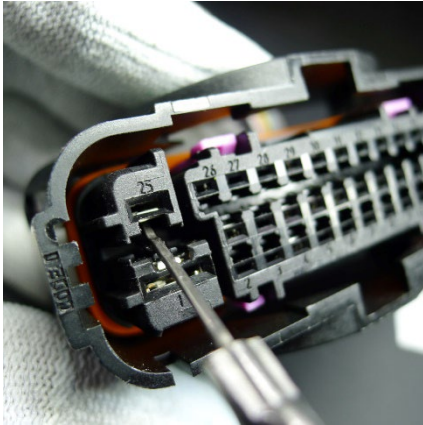
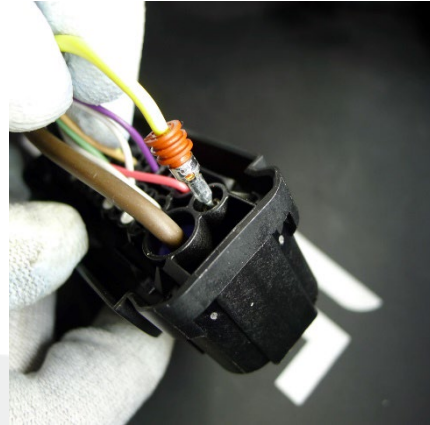

Figure 21
Figure 22
22. Use the tool from the pin drag kit to release the lock for terminal 25 of connector X151 (Figure 21), and at the same time, remove the yellow wire from receptacle 25 (Figure 22).